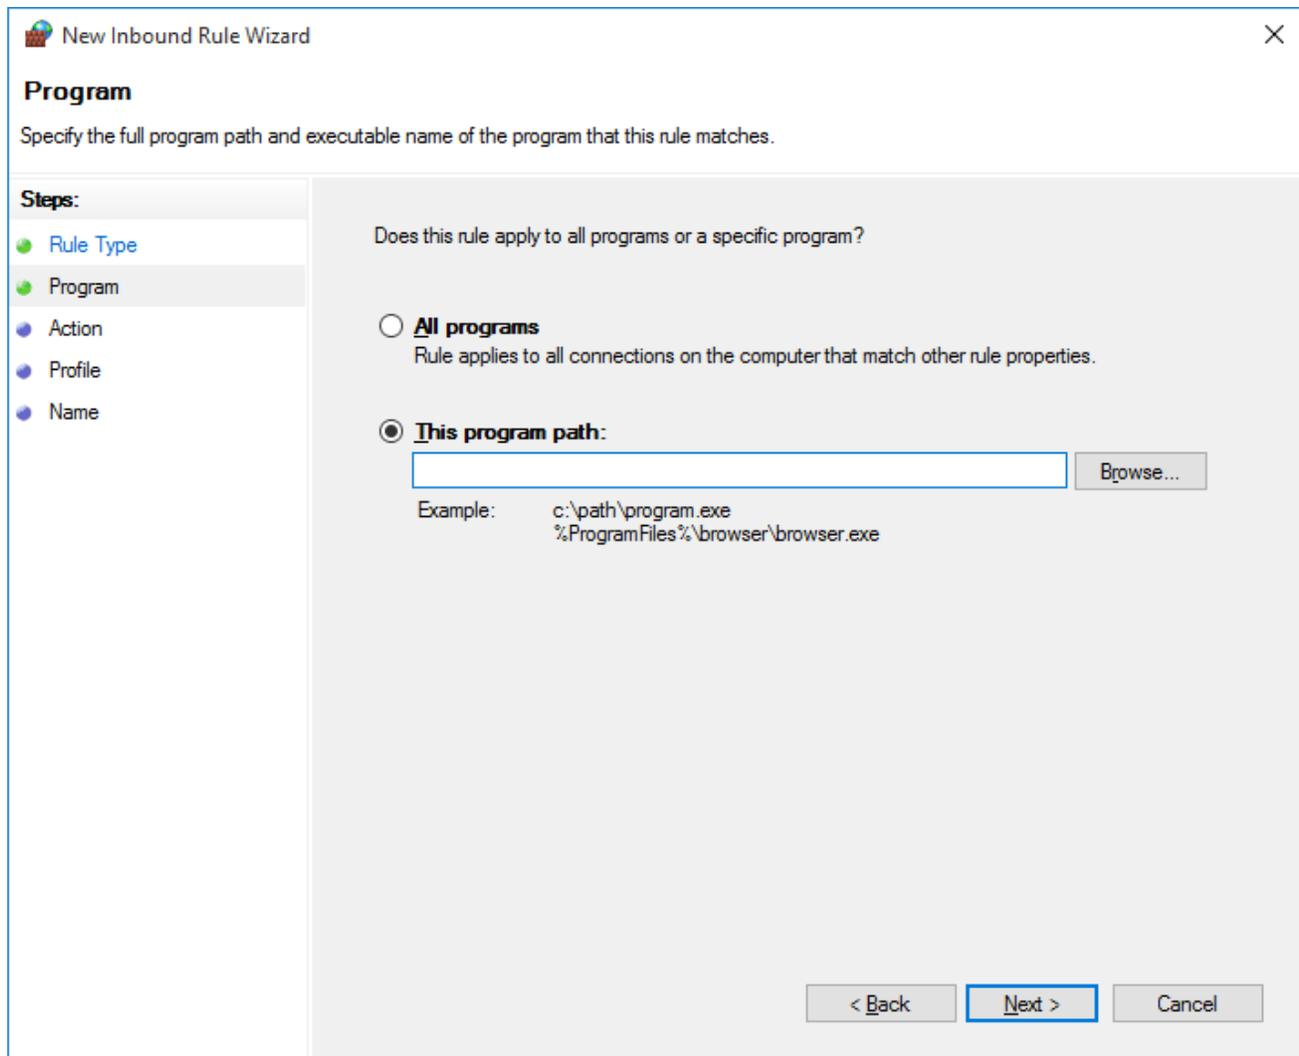

Figure 2-67. New Inbound Rule Wizard – Program page
- On the Program page (see *Figure 2-67*), you can add Object Server to the list of authorized communicators through the Windows Firewall. Click the **Browse** button next to the **This Program Path** field to locate the Bristol OPC Server (**BristolOPCServer.exe**).